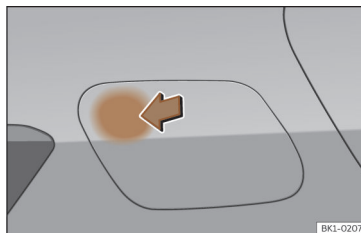

Fig. 55 Opening the charging socket cover.
- With the vehicle unlocked, the battery charging cover opens when the indicated zone is pressed >>> Fig. 55.